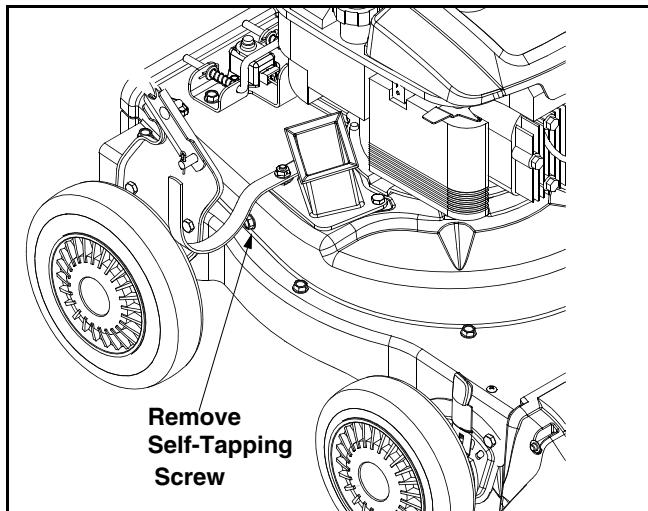

Figure 12
- Remove self-tapping screw on right side of unit that attaches to the fail screen. It may be necessary to remove the hose bracket hanger to get access to the hex screw. See Figure 12.